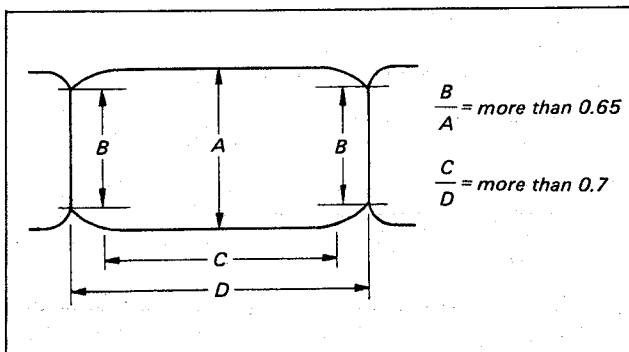

Fig. 6-19. Tape run adjustment (tape-to-head contact) (FWD mode, playing back RR5-1 PAL)
- Check that the RF envelope is within the specifications of Fig. 6-19.